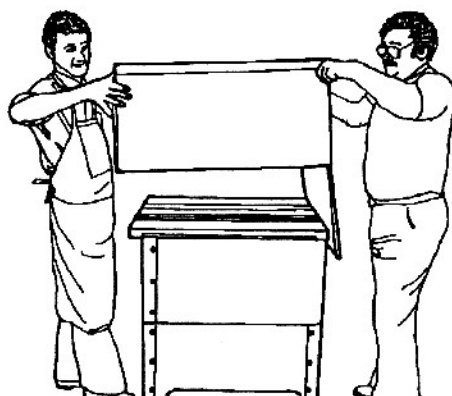

Fig. 24
35. Remove the box from the machine, as shown in Fig. 24. Save the box in case you should ever need to ship the Sawsmith 2000.